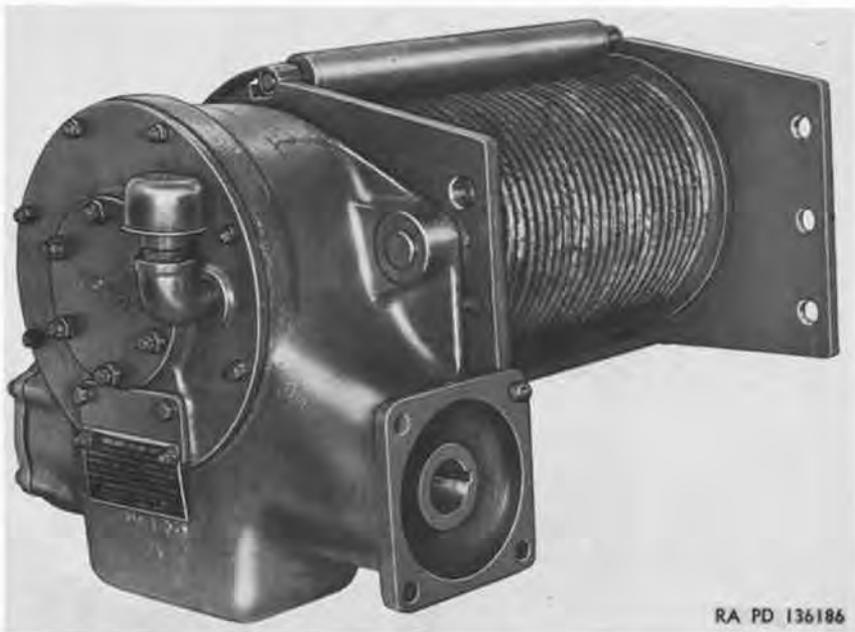

Figure 34. Hoist drum and worm and drive gear set.
*a. General.* No special tools beyond normal maintenance shop facilities are required for disassembling the hoist drum and worm and drive gear set (fig. 34). An overhead crane will be of great help in this operation.